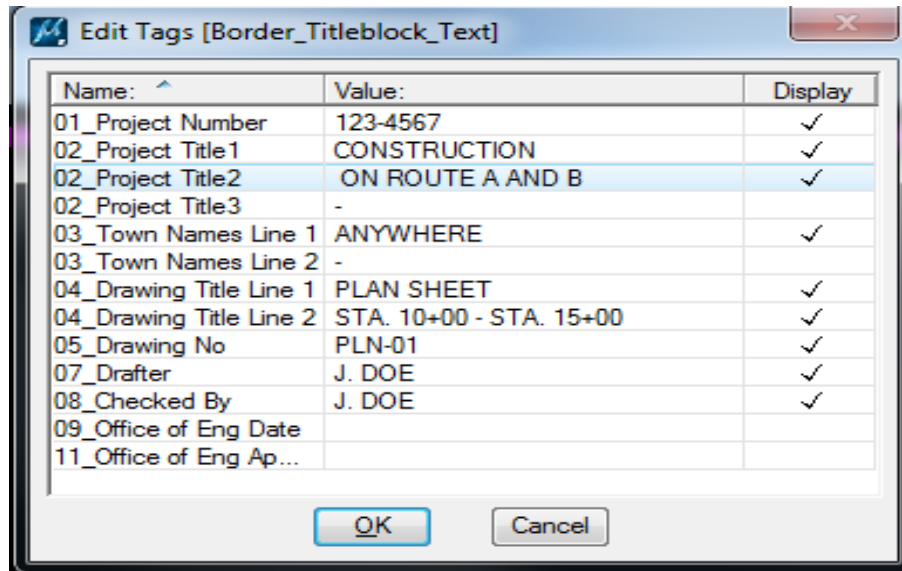

Figure 56 - Edit Tags
3. The **Edit Tags** [Border\_Titleblock\_Text] dialog box opens (Figure 56). **Type** in the information for Project Number, Project Title (up to 3 lines), Town Names (up to 2 lines), Drawing Title (up to 2 lines), Drawing Number, Designer/Drafter and Checked by. Should the box not open the level could be locked, unlock level.
5. Click **OK**. (See Figure 56).